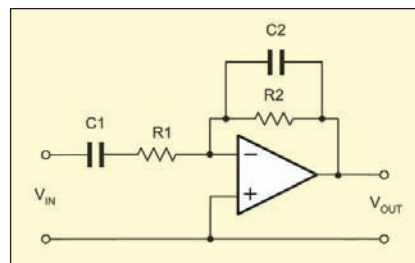
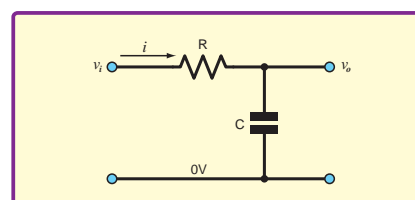

Fig.1. An inverting amplifier with capacitors to limit both the low and the high frequency response (*EPE* Aug '06, P48)
Fig.2. A basic RC low-pass filter (*EPE* Oct '09)
(ii) In *EPE* Oct '09, page 55, Fig.1 (Circuit Surgery) shows a basic RC filter. My question: How does a resistor act as a filter?
These two examples (see below left) show an active (Fig.1.) and passive (Fig.2.) filter. Active filters use amplifiers such as op amps or transistors to provide improved performance over passive filters, but in both cases it is not just a resistor (R) or a capacitor (C) on its own that determines the filter's characteristic, but it's the combination of the two that matters, hence the term 'RC circuit'. Similarly, inductors (L) can also be used to make filter circuits; again it is the combinations that provide the filtering operations: RL, LC and RLC circuits can act as filters.